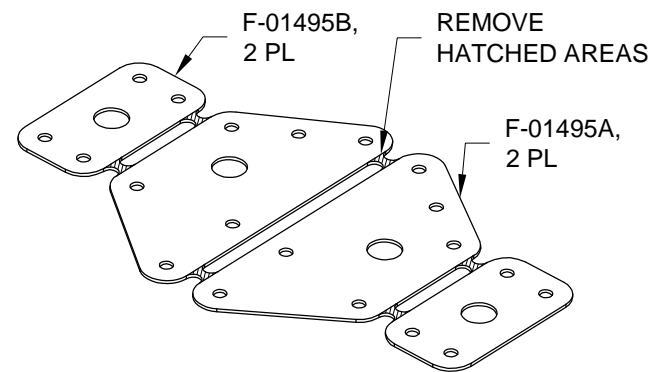

FIGURE 1: STEP ATTACH RIB DOUBLERS
Step 1: Separate the F-01495AB Step Attach Rib Doubler as shown in Figure 1.